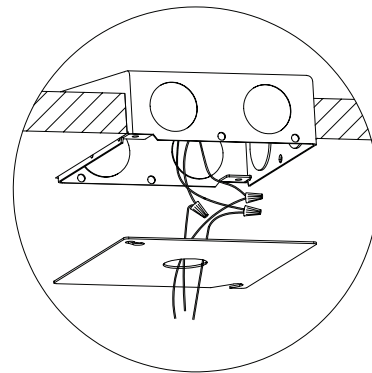

FIG.4
- 2 For electrical connections, use UL-approved wire connectors, as mandated by local codes, to connect the fixture to the main power source, following the diagram provided. (Figure 4)